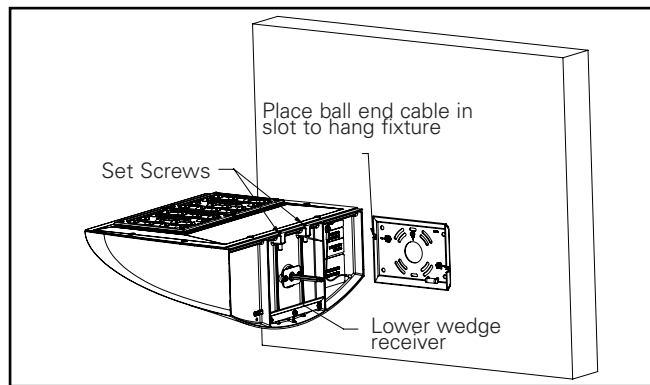

Figure 11.
3. Hang the fixture from the wedge plate using the balled ended cable located on the back of the fixture. (Figure 11)